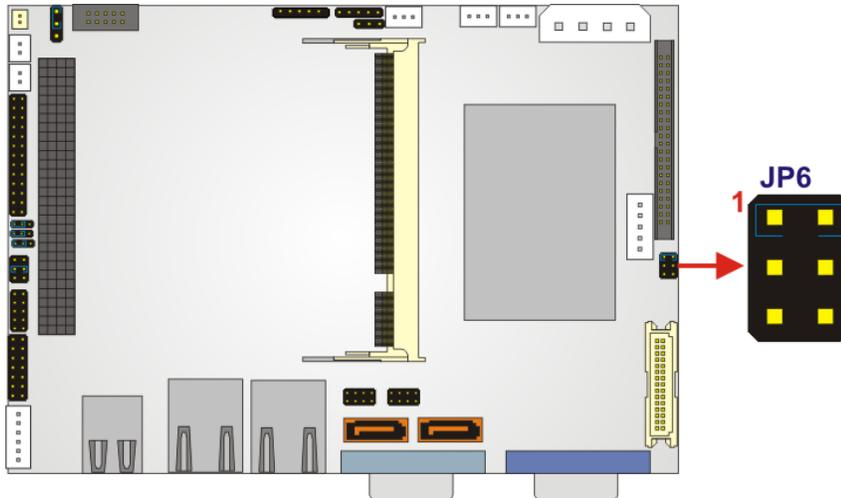

Figure 4-4: LCD Voltage Setup Jumper Pinout Locations
- Jumper Location:** See **Figure 4-4**
The LCD Voltage Setup jumper location is shown in **Figure 4-4** below.